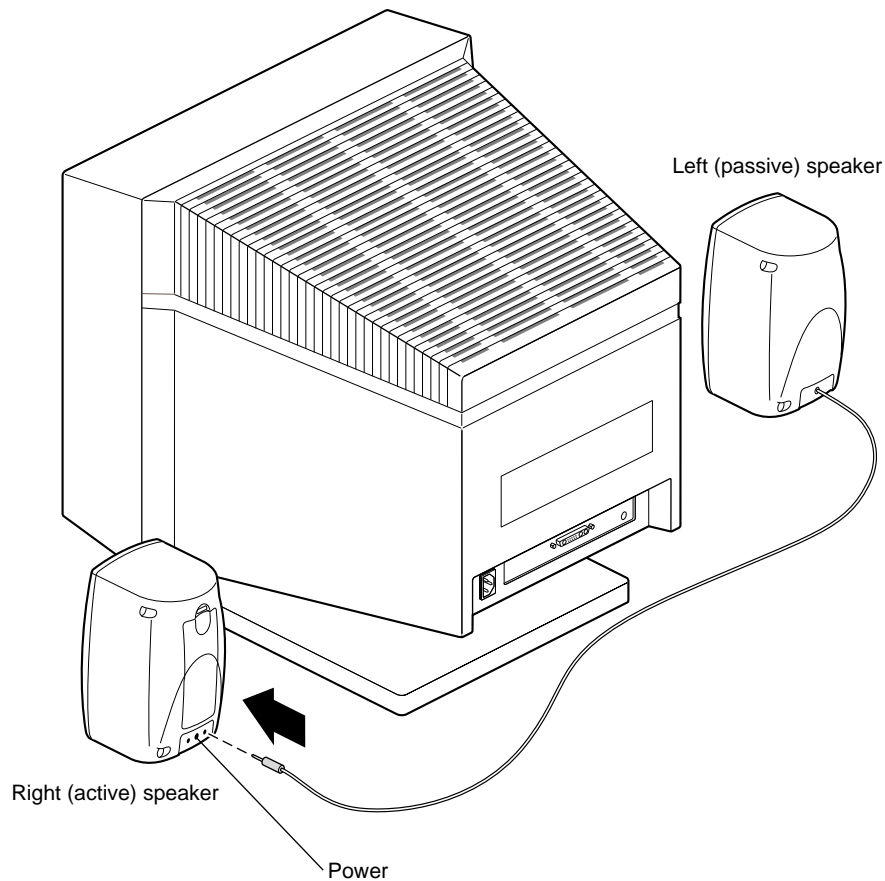

Figure 6-16 Setting Up the Speakers
3. Attach the left (passive) speaker cord to the right (active) speaker. Use the port marked L. See Figure 6-16.